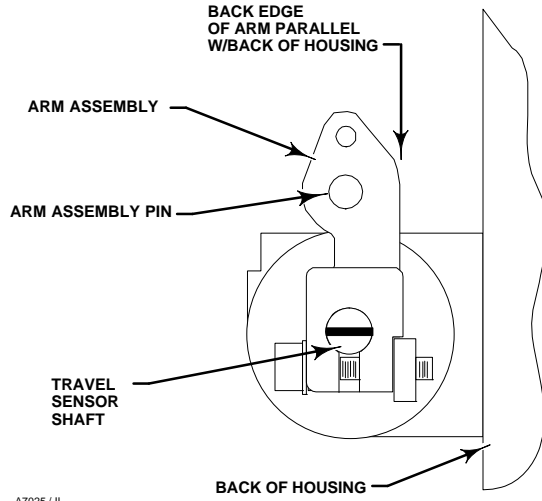
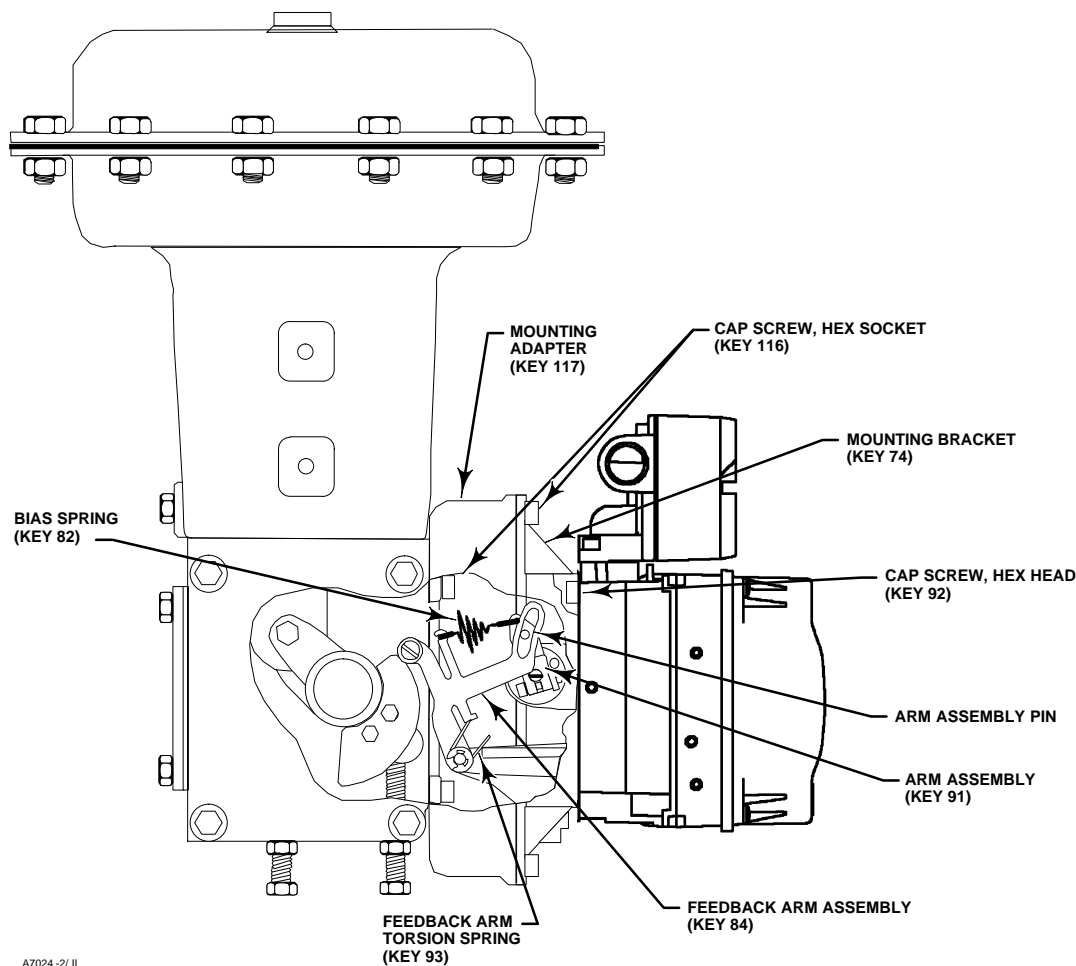

Figure 5-3. FIELDVUE DVC6020 SIS Travel Sensor Arm/Housing Back Plane Alignment
Figure 5-4. FIELDVUE DVC6020 SIS Digital Valve Controller Mounted on a Fisher 1052 Size 33 Actuator
- See figure 5-4 for parts identification. Disconnect the bias spring (key 82) from the feedback arm assembly (key 84) and the arm assembly (key 91). Remove the mounting bracket (key 74) from the back of the digital controller. Hold the arm assembly (key 91) so that the arm assembly points toward the terminal box and the arm is parallel to the back of the housing, as shown in figure 5-3.